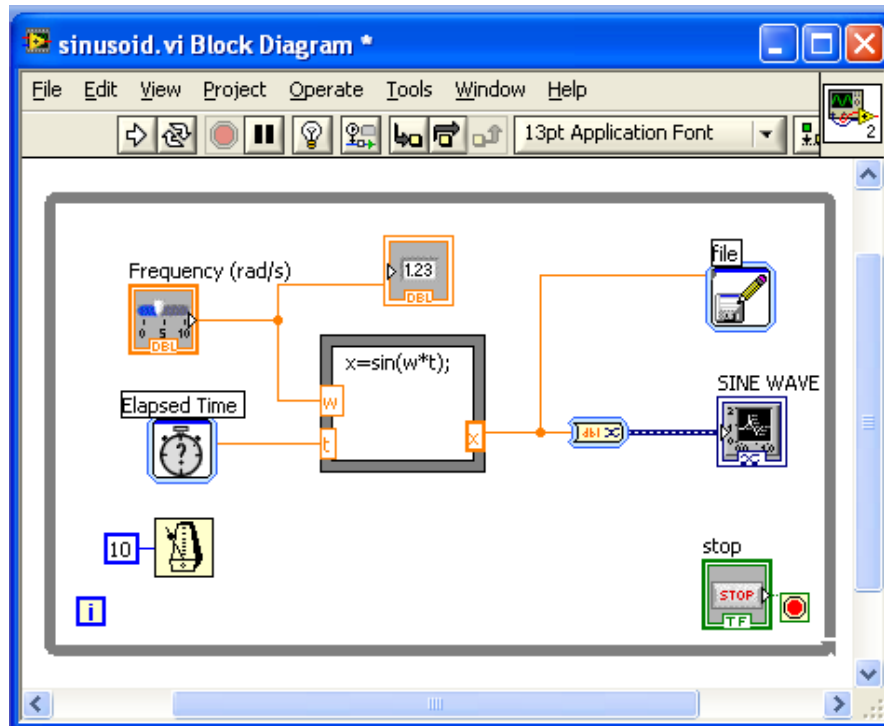

Figure 24. Final “Block-Diagram” window including a “Write Meas File” block.
- Add “Write Meas File” block (see Figure 24)